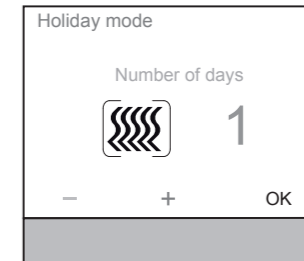

Figure 17: Setting duration of holiday mode
- The holiday mode operating mode is activated for the duration of the set days. The display switches to the holiday mode display (figure 17).
- In the status line (6) of the basic display the [Holiday] symbol for the holiday mode disappears.